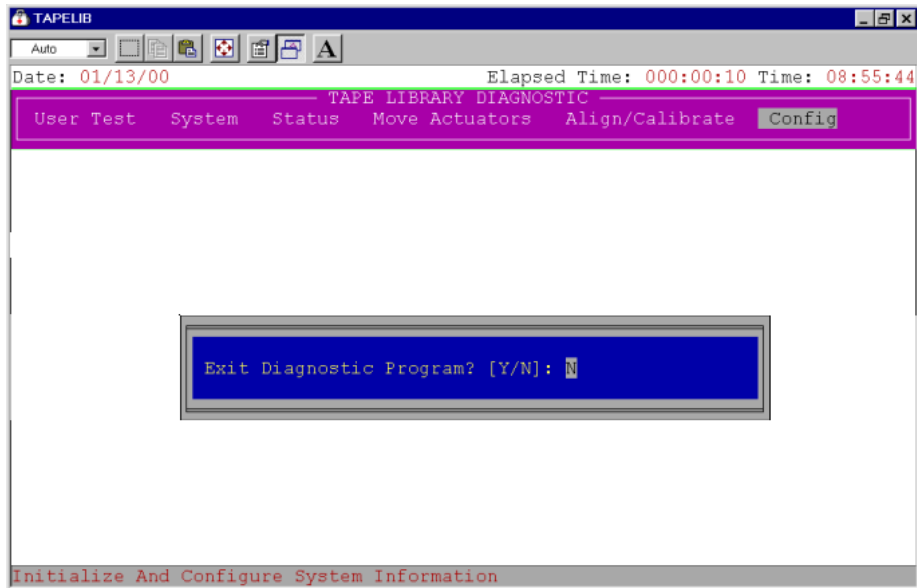

Figure 7-1. Exit Diagnostic Program screen
1. Press the **Esc** key until the Exit Diagnostic Program screen appears (see Figure 7-1).